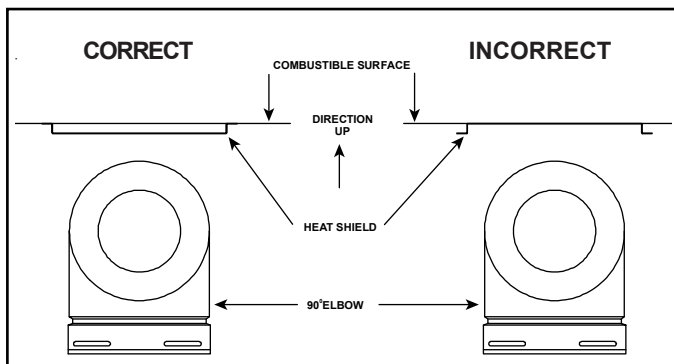

Figure 6.3
2. Fasten the shield in place using the four pilot holes. The shield should be oriented such that the 13 1/8 inch dimension (longest dimension) is running in the same direction the elbow is pointing. The shield should be centered directly above the elbow, and positioned so that it creates a 1/2 inch airspace between the shield and the combustible surface. See Figure 6.3.